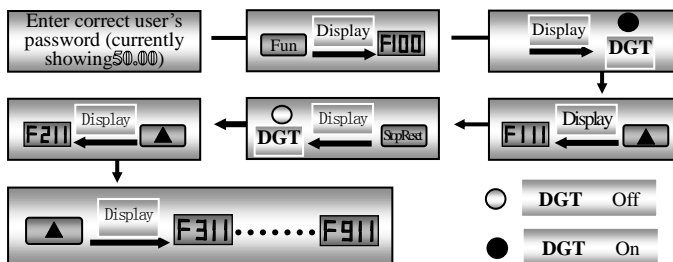

Fig 2-2 Switch over in a Code Group or between Different Code-Groups
e.g. when function code shows F111 and DGT indicator is on, press “▲”/“▼” key, function code will keep increasing or decreasing by degrees within F100~F160; press “stop/reset” key again, DGT indicator will be off. When pressing “▲”/“▼” key, function codes will change circularly among the 10 code-groups, like F211, F311...FA11, F111..., Refer to Fig 2-2 (The sparkling “50.00” is indicated the corresponding target frequency values).